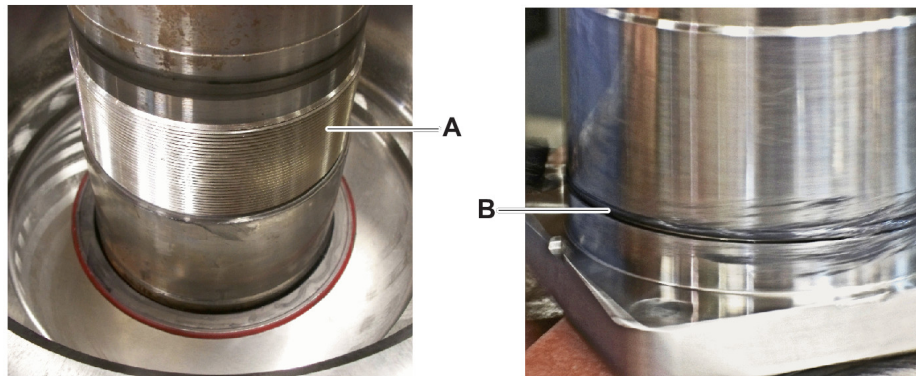

Figure 11
18. Apply oil seal lip with a layer of Ronex-HD grease and install the oil seal over the spindle (Figure 11, item A) and into the housing cover. Make sure for the correct seal orientation.